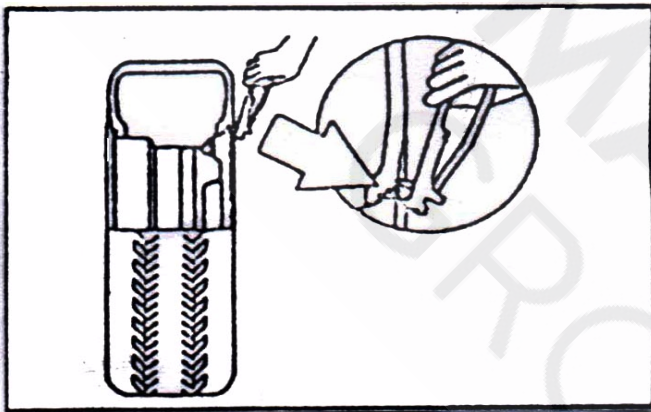

FIG 17
4.1.1 Deflate the air in the tire completely. Use the special tool to detach the weight on the rim and pull out the core (FIG17).